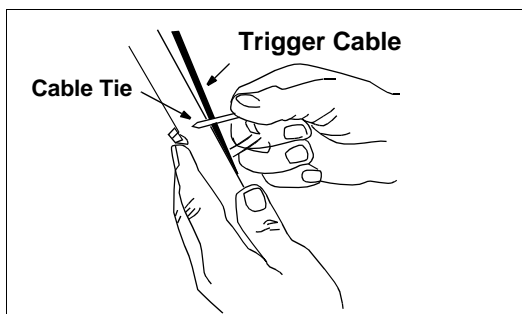

Figure 14
- Secure the right turn trigger cable to the right lower handle using cable tie provided in the hardware pack. Make sure not to wrap *the drive cable*. See Figure 14.